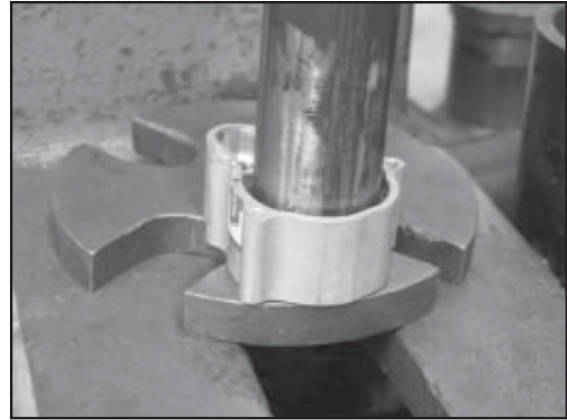

Figure 11
2. Using a socket with an outside diameter the same as the outside diameter of the outer race of the bearing, CAREFULLY press in the new bearing into each housing, **Figure 11**.